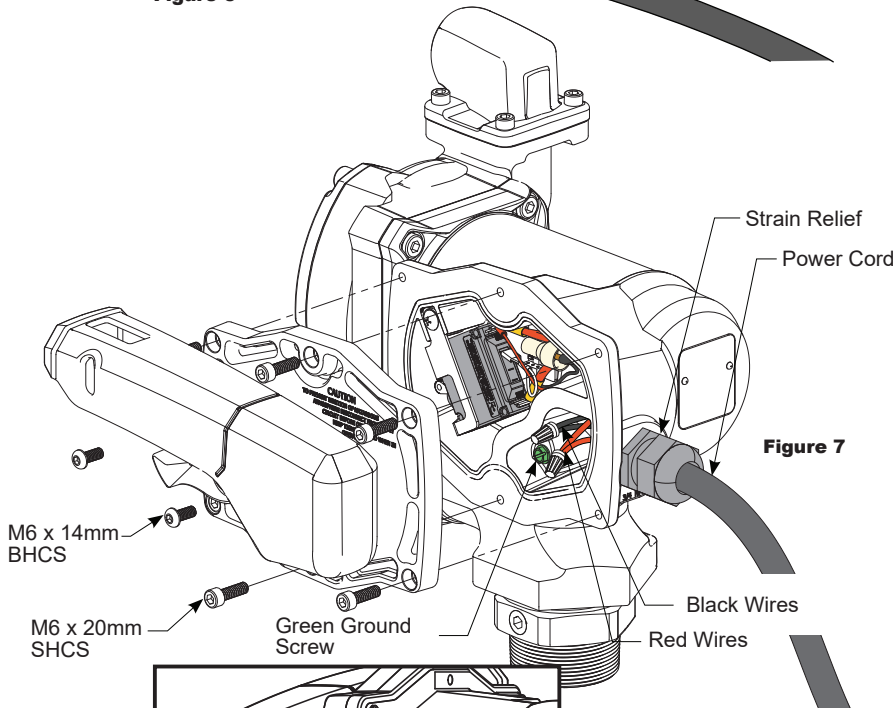
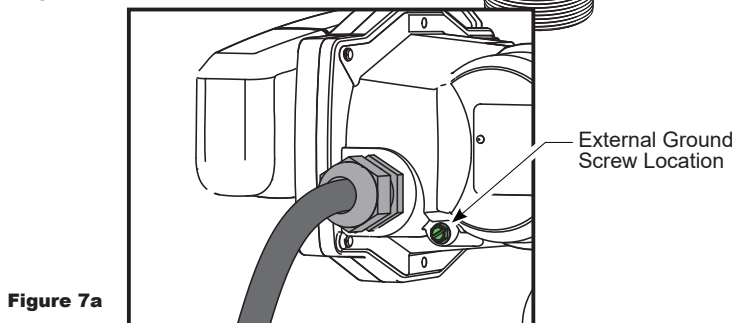

Figure 7
Figure 7a
To install the power cord, remove the (6) M6-1.0 x 20mm SHCS and electrical cover plate (see Figure 7).
Insert the power cord through the 3/4 inch NPT connection on the back of the pump (see Figure 7). Using wire nuts, connect the black wire to the black wire and the red wire to the red in the pump's electrical cavity. Position the wires inside the electrical cavity and tighten the strain relief grip securely. Make sure surfaces are clean. Reinstall the electrical cover plate and switch lever, and tighten securely.
A grounding connection is provided. It is identified as a green colored binding head screw in the electrical cavity (see Figure 7): an external ground can be used instead. When using the external ground for the V25-012B08 or V25-024B08 (Zone 1 or 2), the installer **must** use a ground wire with a minimum cross-sectional area of 4mm². To use external ground, remove green ground screw from electrical cavity and install in location shown (see Figure 7a).